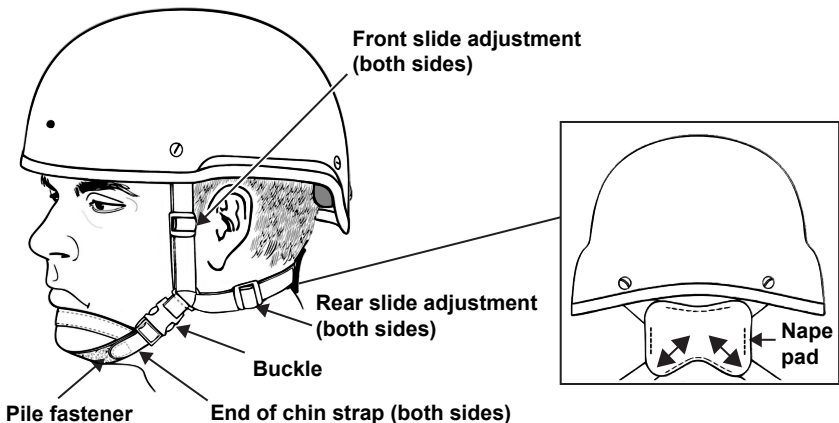

Figure 19. Helmet with Universal X-style Retention
1. Referring to **Figure 19**, don the helmet, ensuring that the helmet rests just above the eyebrows.